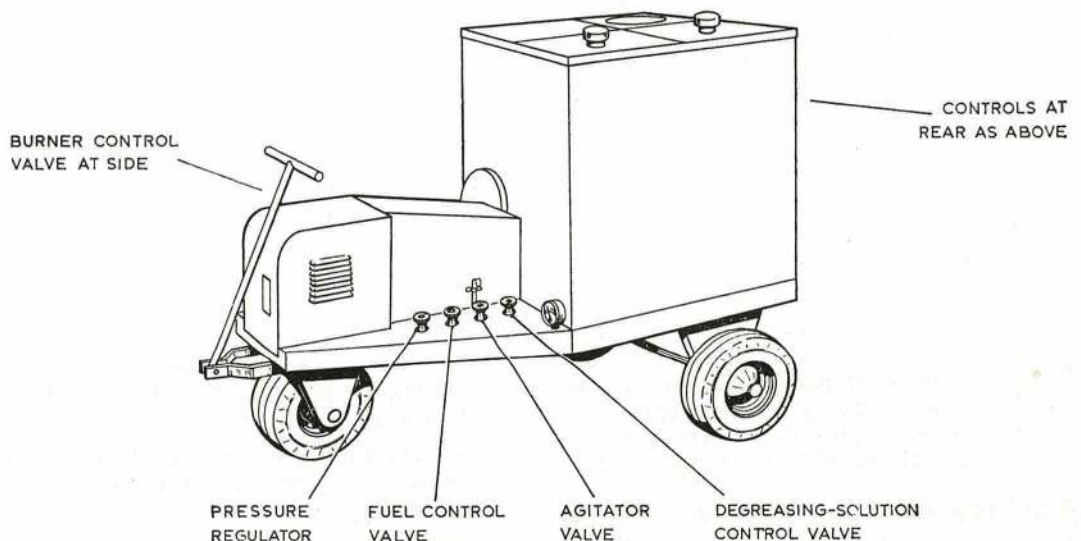

Fig. 13. LOCATION OF CONTROL VALVES
36. **Water System** (Fig. 13). Fill the water system as follows:—
Starting the Plant (Fig. 13)
Mixing the Degreasing Solution (Fig. 13)